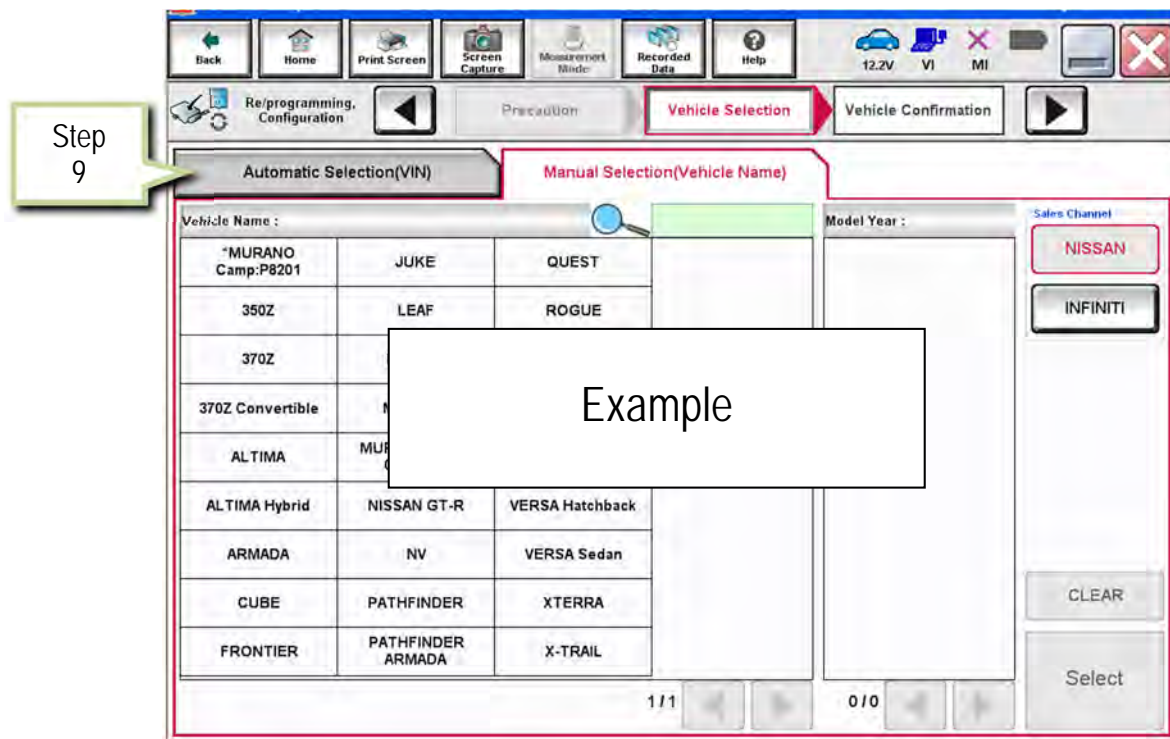

Figure 3
9. If the screen in Figure 3 displays, select **Automatic Selection(VIN)**.
- If the screen in Figure 3 does not display, skip to step 10.